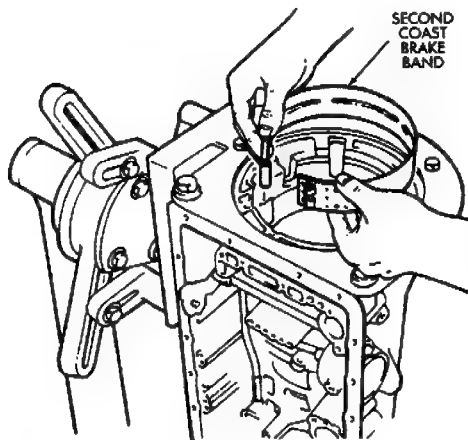

Fig. 22 Installing Second Coast Brake Band
(27) Install second coast brake band (Fig. 22).